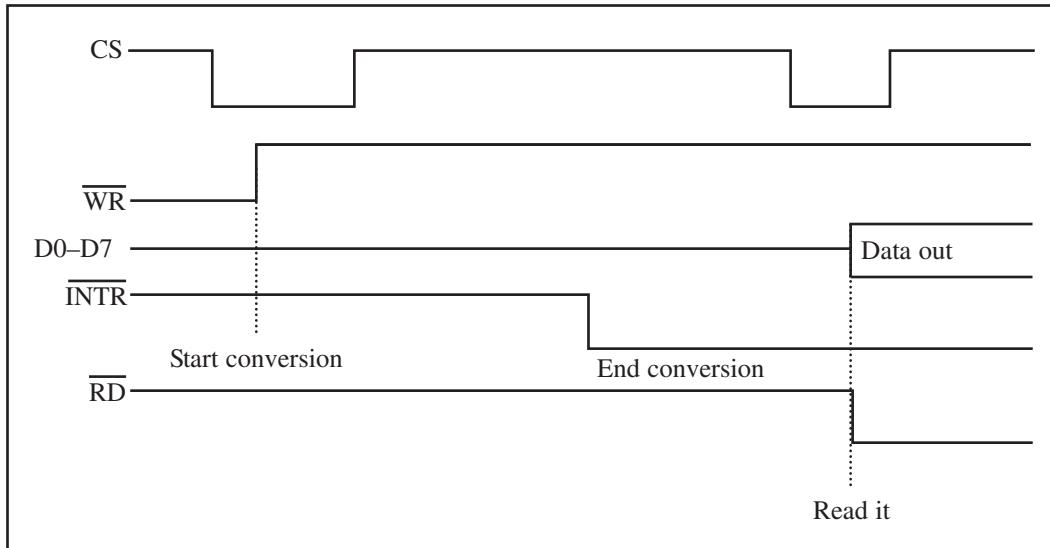

Figure 2. Read and Write Timing for ADC0804
3. After the INTR has become low, we make CS = 0 and send a high-to-low pulse to the RD pin to get the data out of the ADC0804 IC chip. The timing for this process is shown in Figure 2.